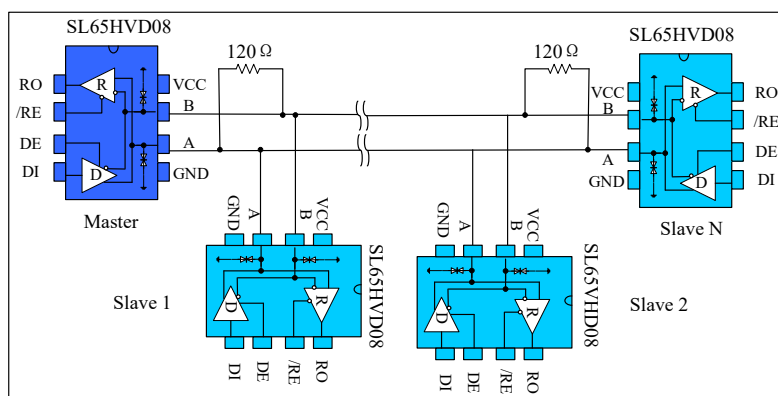

Fig 9 Bus type RS485 half-duplex communication network
4.1 Bus Networking: SL65HVD08 RS485 transceiver is designed for bidirectional data communication on multi-point bus transmission line. Fig 9 shows a typical network application circuit. These devices can also be used as linear repeaters with cables longer than 4,000 feet. In order to reduce the reflection, terminal matching should be carried out at both ends of the transmission line with its characteristic impedance, and the length of branch lines outside the main line should be as short as possible.